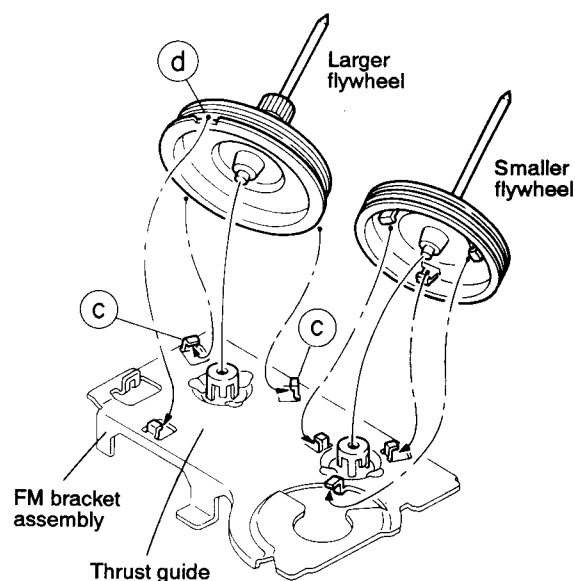

Fig. 5-43
1. First of all, attach the larger flywheel to the slide guide of the FM bracket assembly as shown in Fig. 5-43.
2. Set the FM bracket assembly to the two engagements ③ (See Fig. 5-43).
3. Pass the thrust guide of the flywheel through the notch ④ and turn the flywheel (See Fig. 5-43).
4. Next, set the smaller flywheel similarly according to the above steps (See Fig. 5-43).